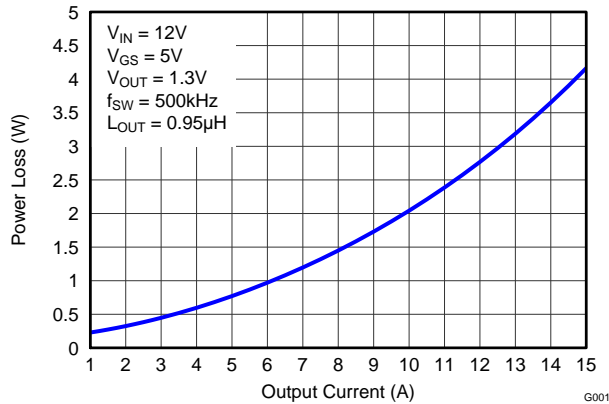
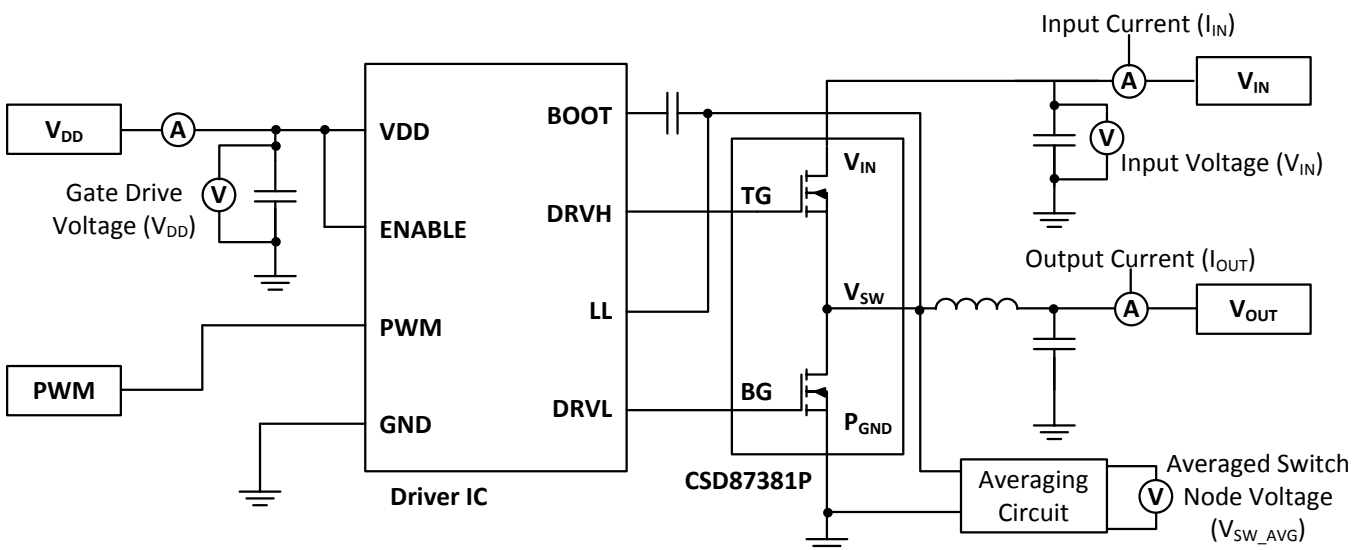

Figure 1. Power Loss vs Output Current
Figure 27. Typical Application
MOSFET centric parameters such as $R_{DS(ON)}$ and Q_{gd} are needed to estimate the loss generated by the devices. In an effort to simplify the design process for engineers, TI has provided measured power loss performance curves. Figure 1 plots the power loss of the CSD87381P as a function of load current. This curve is measured by configuring and running the CSD87381P as it would be in the final application (see Figure 27). The measured power loss is the CSD87381P loss and consists of both input conversion loss and gate drive loss. Equation 1 is used to generate the power loss curve.
The power loss curve in Figure 1 is measured at the maximum recommended junction temperatures of 125°C under isothermal test conditions.
- Power Loss at 8 A = 1.44 W (Figure 1)